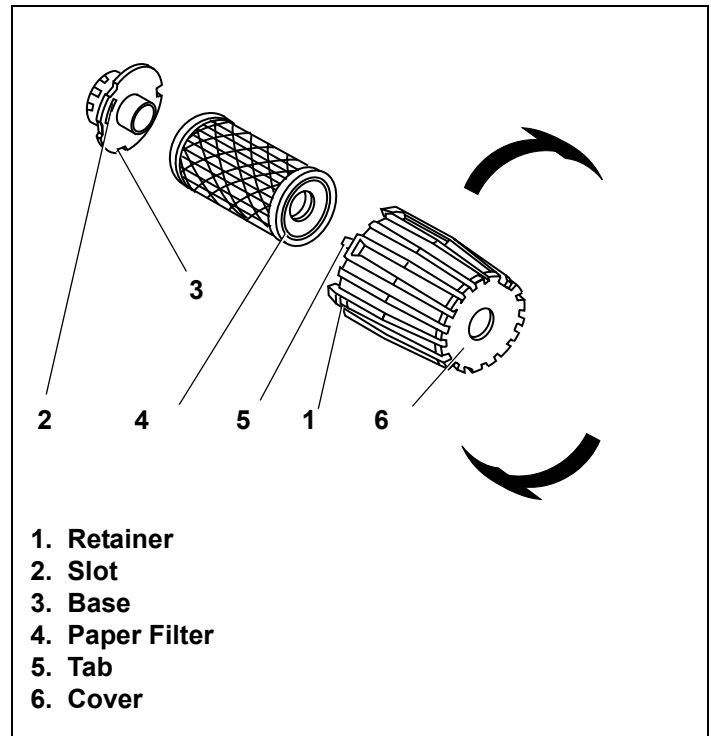

Figure 43. Type "B" Air Cleaner Assembly
1. Turn cover to left (counterclockwise) and remove it and paper filter from base. See Figure 43.